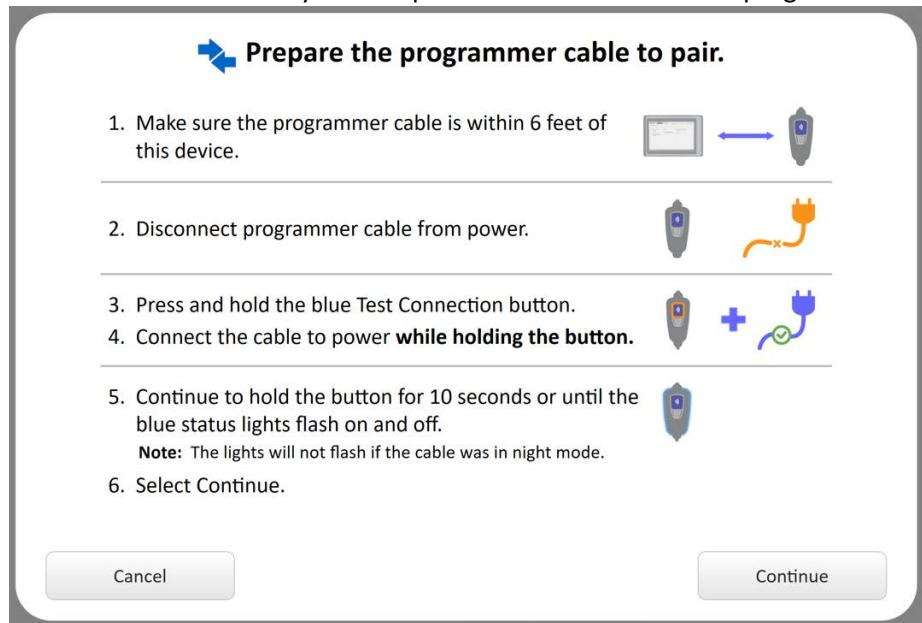

Figure 3-8. Pair a Programmer Cable Instructions
c. Follow the on-screen instructions (Figure 3-8) to prepare the programmer cable, and then select **Continue**.